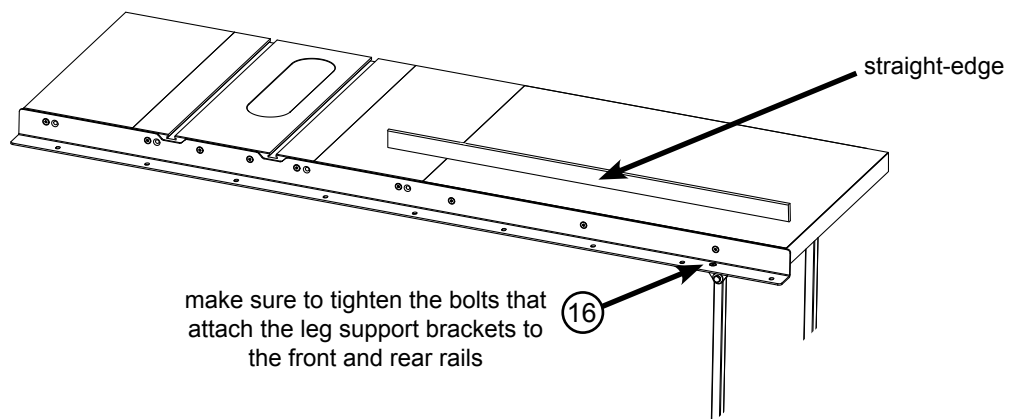

Fig. 14
14. Use a straight-edge to level the front edge of the extension table to the saw table (see Fig. 14). You may have to pull up or push down on the extension table to level it. Once the front edge of the extension table is level, use a 5 mm hex key and a 13 mm wrench to fully tighten the nuts on the bolts along the front rail. Repeat the process to level the rear edge of the extension table. Also fully tighten the bolts that attach the leg support brackets to the front and rear rails (bolts 16 in step 8).